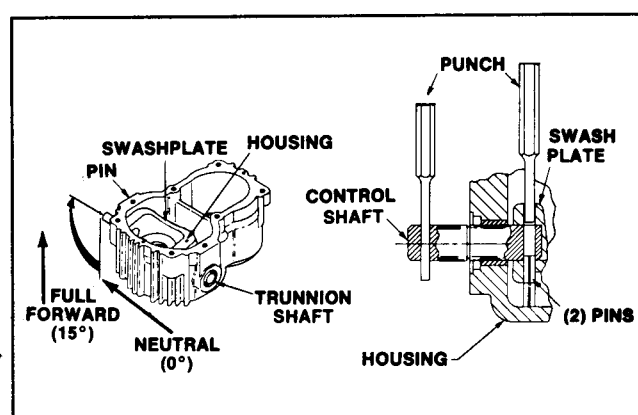

Figure 42
8. To remove the variable position swash plate and trunnion shafts, place the transmission housing onto the work surface with the large cavity up (Fig. 42). Mark the control shaft and housing so that the shaft can be reinstalled correctly during reassembly.